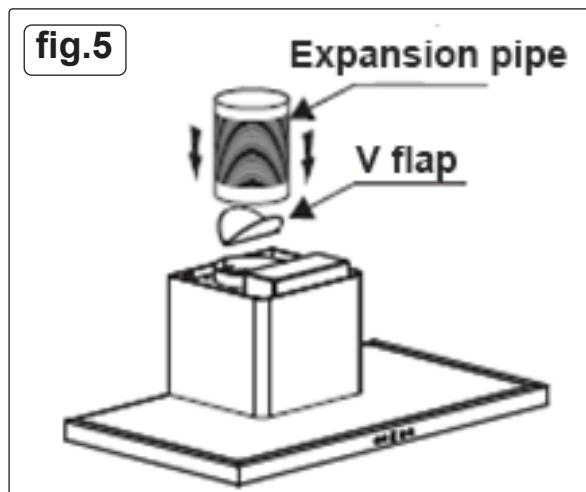

fig.5
- Install the expansion pipe and chimney on the cooker hood, fig.5.